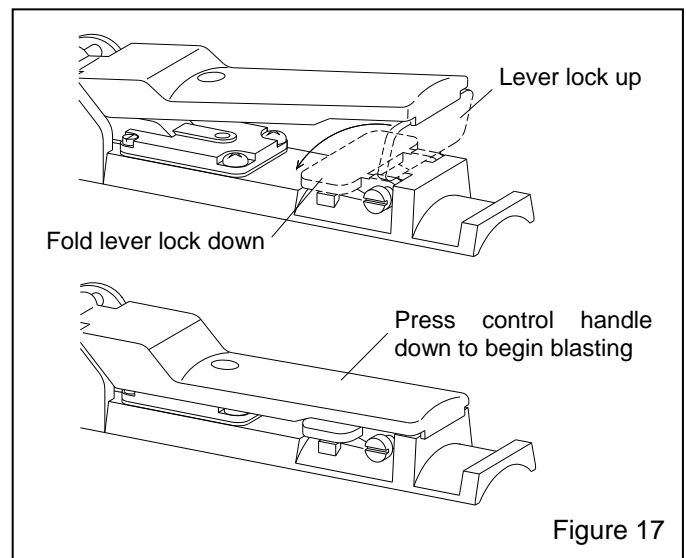

Figure 17
4.5.4 Fold down the safety lever lock and press the remote control handle as shown in Figure 17. Be prepared for blasting to start within a few seconds.